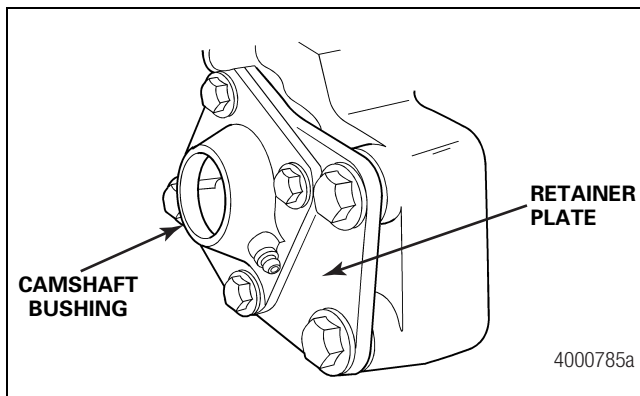

Figure 6.13
8. Install the camshaft bushing retainer plate and two bolts to the back side of the steering knuckle. Tighten the capscrews to the correct torque. Refer to Section 8. Figure 6.13.